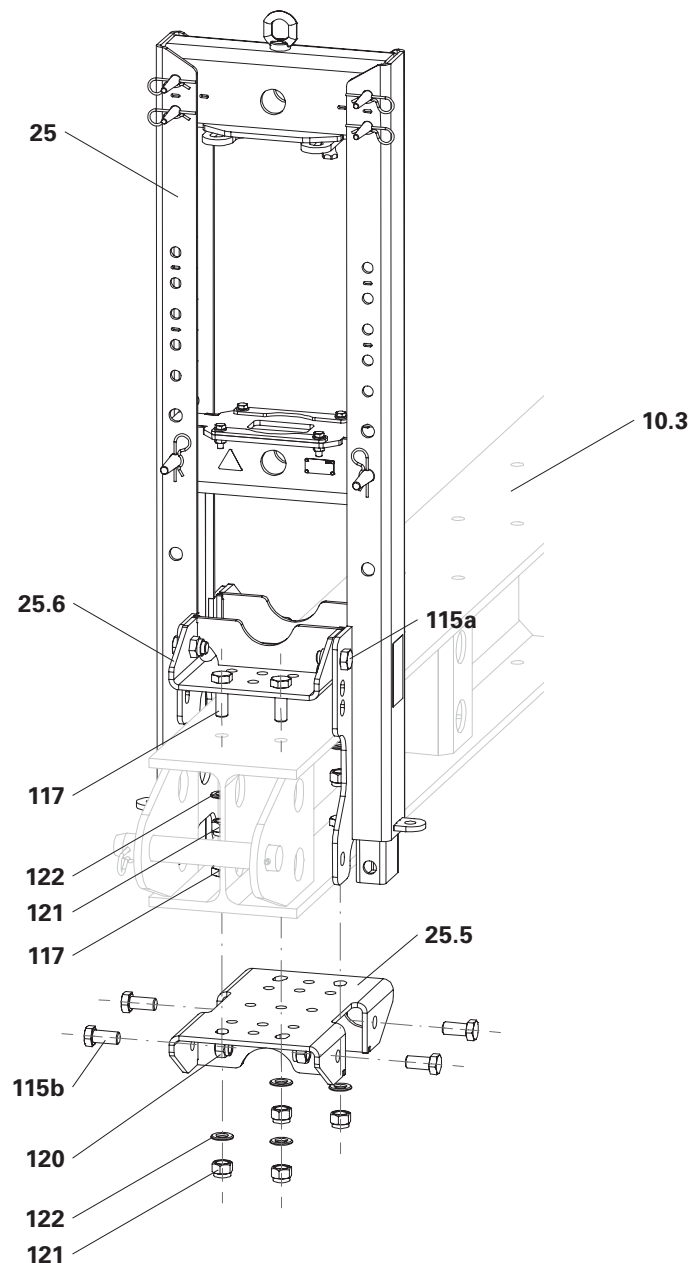

Fig. B4.04
3. Attach the liftframe (25) to the crane lifting gear and fly in.
5. Fix the bottom girder connection (25.5) in its original position with bolts M24x50 (115b) and nuts M24 (120).
7. Fix the liftframe (25) to the base beam with bolts M24x70 (117), washers M24 (122) and self-locking nuts M24 (121).
9. Remove the crane lifting gear. (Fig. B4.04)